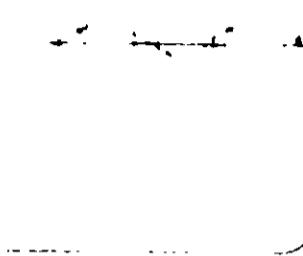

Figure 2. Normal in-ground pool installation
**Figure 2 shows the most desirable installation for the Tabex Aquarian Feeder.** The filtration equipment for the in-ground pool is located at or above the level of the water in the pool and the feeder is located above the filter and pump